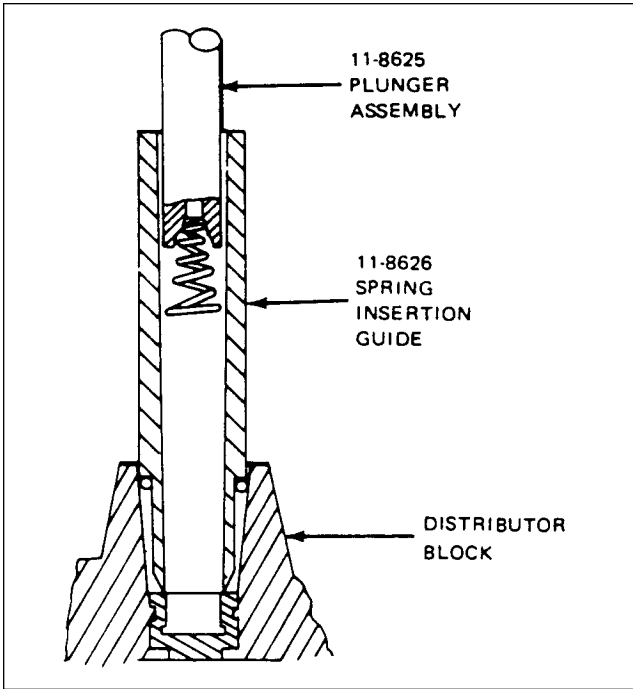

Figure 74-28. Position of 11-8627 Kit and Contact Spring at Start of Installation
6. When lead being replaced is elbow type, salvage used elbow and compression springs for installation on replacement lead. Install these and new sleeve and contact spring (refer to figures 74-28 and 74-29) furnished with replacement lead per instructions in steps 1 thru 4.